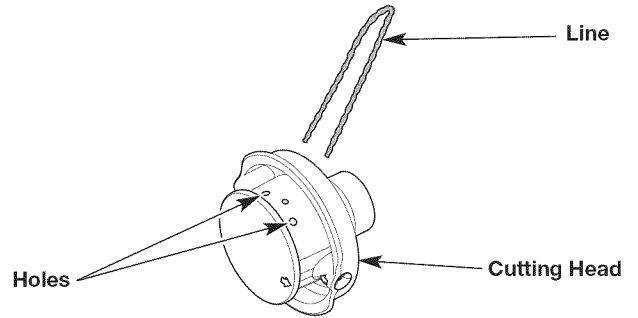
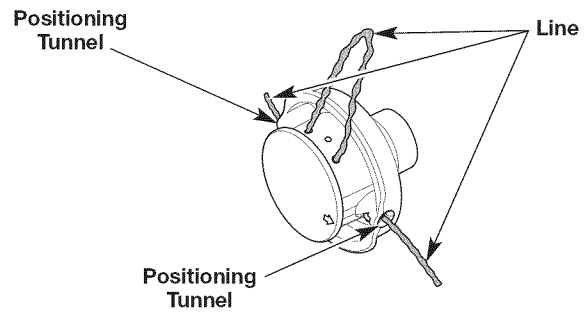

Fig. 16
Fig. 17
3. Insert the ends of the line through the large circular holes in the side of the cutting head (Fig. 16). Push the line through the holes until both ends protrude from the positioning tunnels (Fig. 17).